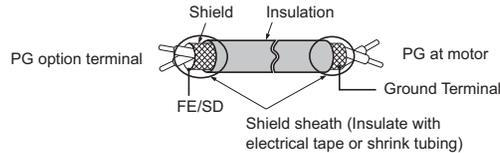

Figure 41 Preparing Ends of Shielded Cable
- Prepare wire ends as shown in **Figure 41**. Refer to **Table 83 on page 198** to confirm that the proper tightening torque is applied to each terminal. Take particular precaution to ensure that each wire is properly connected and wire insulation is not accidentally pinched into electrical terminals.